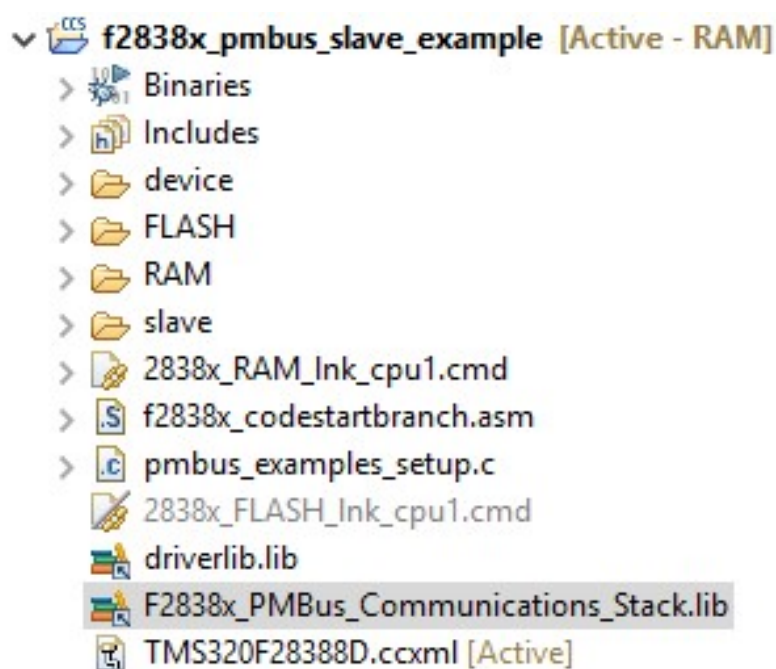

Figure 4.3: Adding the library and location to the file search path
2. Add the Communications Stack library (replace "device" with F28002x, F28004x, F2838x, F28003x), F280015x F28P55x or F28P65x, '**<device>_PMBus_Communications_Stack.lib**' to the project explorer as shown in Fig. 4.3. Also add the device driver library.